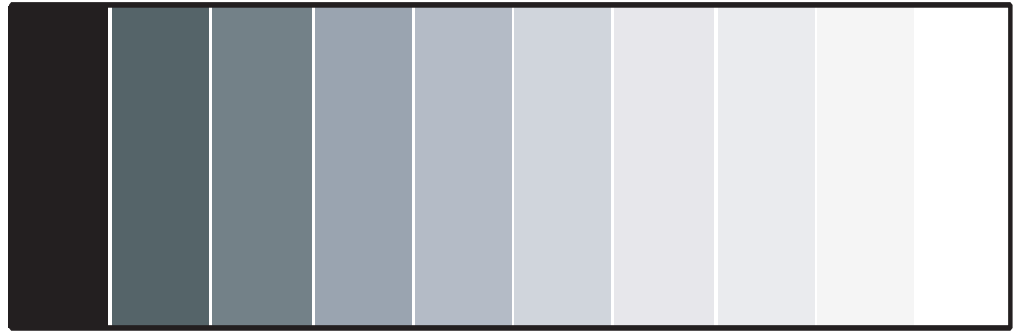

**Figure 4-6. Typical Gray Bar Pattern for Adjusting Contrast**
**Contrast:** On your external test pattern source, select a stepped, gray-bar pattern like the one shown in Figure 4-6.